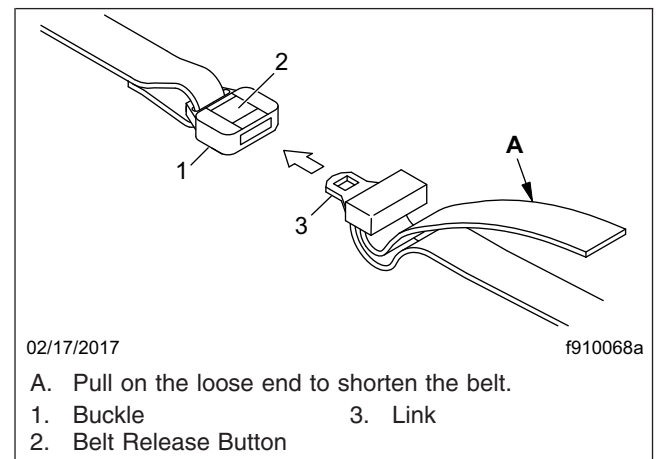

Fig. 7.14, Bunk Restraint Adjustment
3. After the belt is connected, shorten it by pulling on the loose end until the belt is snug, but comfortable. Be sure the belts are not twisted. See Fig. 7.14.